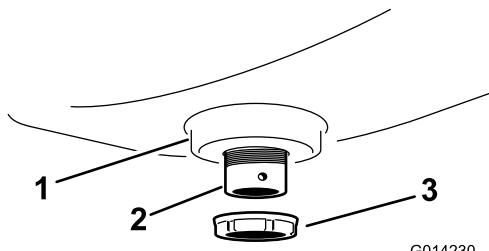

Figure 4
3. Secure the bulkhead to the rinse tank with a plastic fly nut (Figure 4).